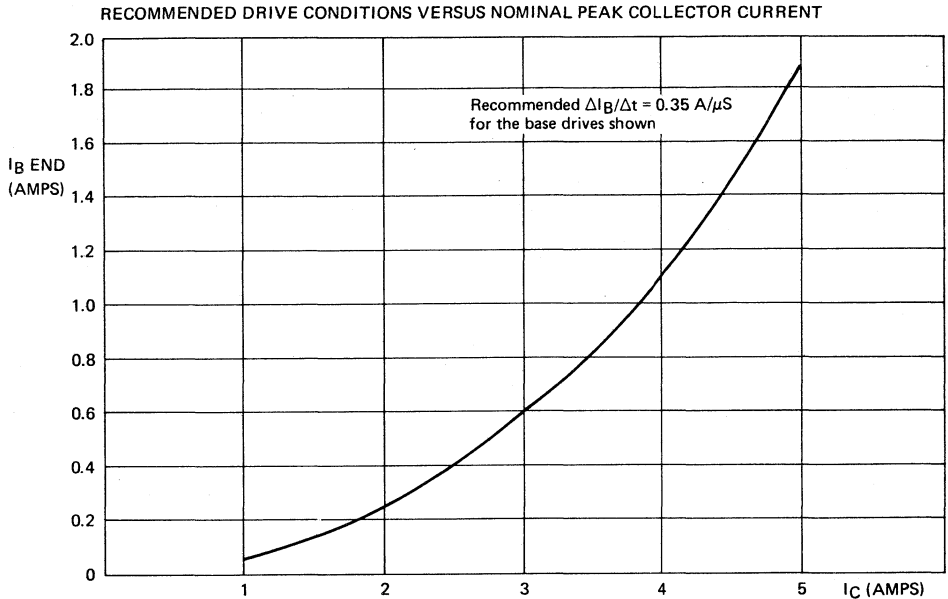
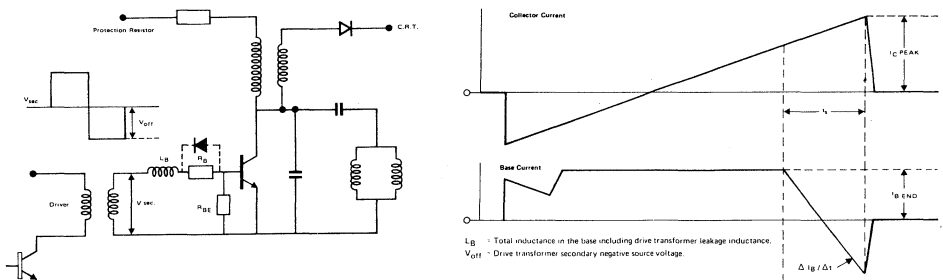

FIGURE 4
FIGURE 5
2. Under recommended drive conditions. See Figures 4 and 5.
The values given in Figure 4 are for the drive parameters as defined in Figure 5 for a BU500 operating in a deflection stage and comprehend operation at case temperatures up to 90°C and variations of +20% on nominal values due to supply and frequency variations and circuit component tolerances.